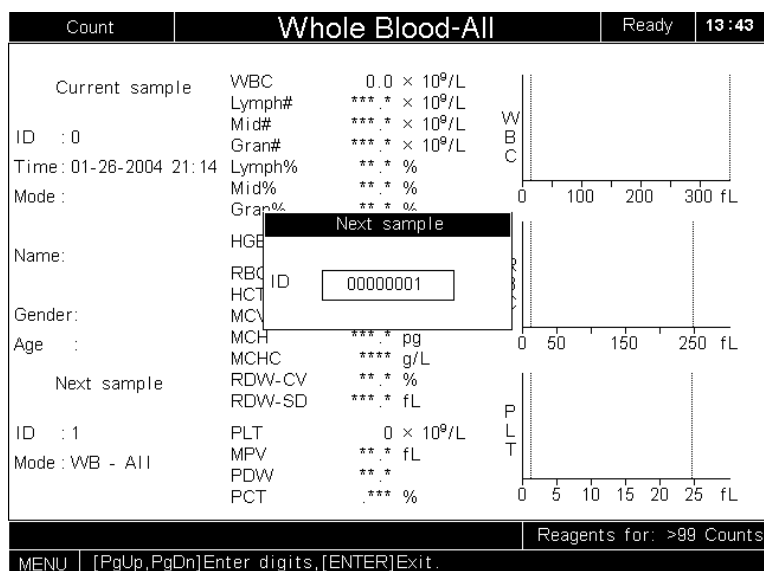

Figure 3-3 Entering ID of the next sample
- At the **Count** screen, press [F1] to enter the **Next sample** screen, as Figure 3-3 shows.